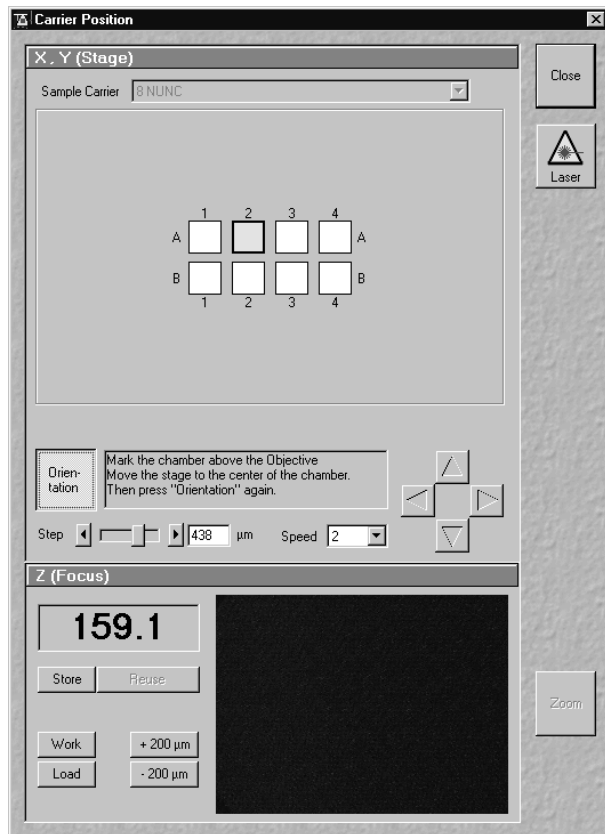

Fig. 4-28 Sample drives unlocked
(2) Orienting the Sample in x and y
- Now click on the **Orientation** button in the **Carrier Position** window (Fig. 4-28).